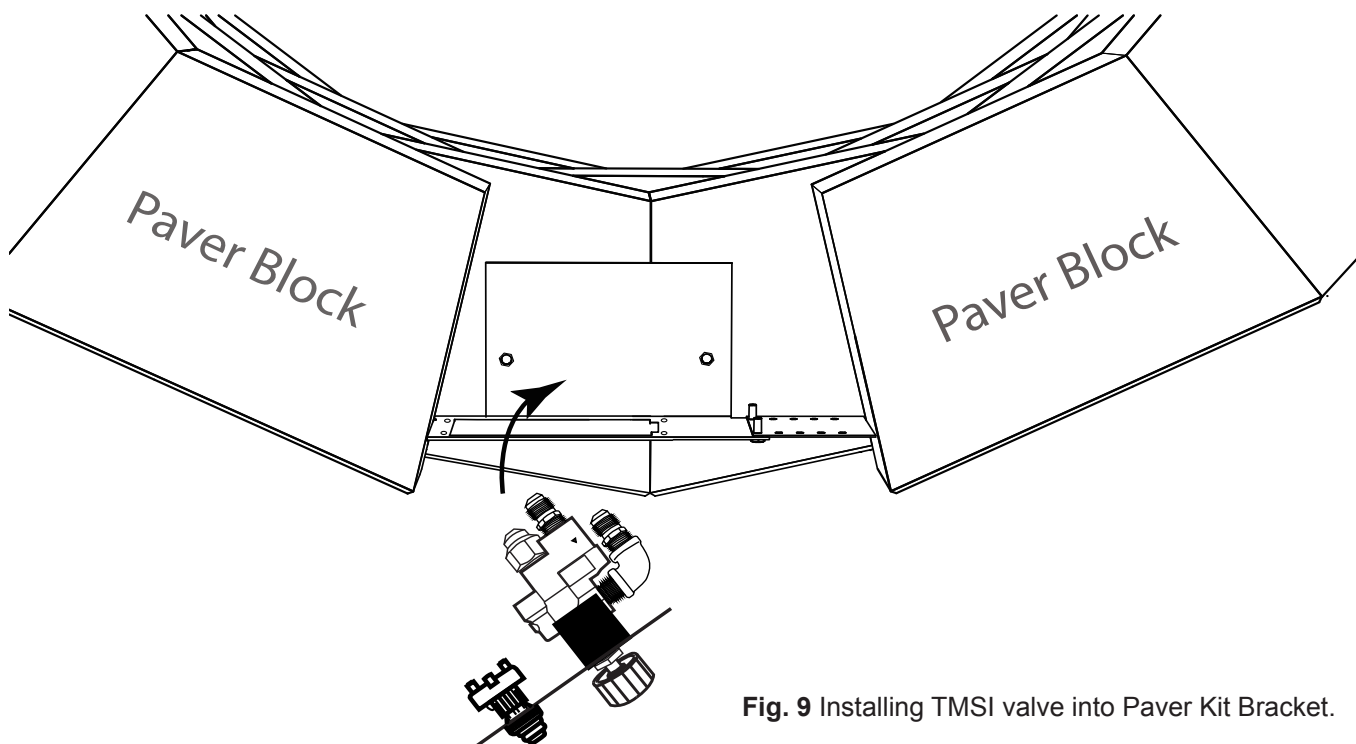

Fig. 9 Installing TMSI valve into Paver Kit Bracket.
PRECAUTION: Ensure the PAVER-CP-TMSI control panel is within 40-inches of the 2-probe Piezo ignitor. This will allow enough "play" in the wires to make your connections. See Fig. 9.
STEP 7: Once the fittings and wired are installed into the TMSI valve bracket then insert the valve bracket into Paver Kit Bracket as shown in Fig. 9.